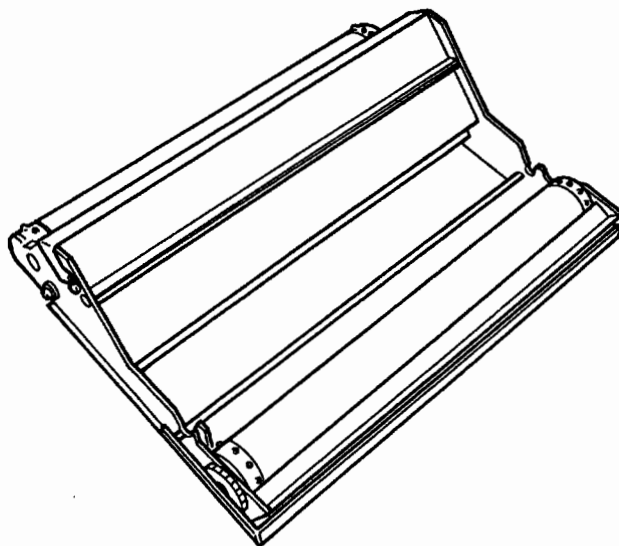

Figure 6.10
- (3) Turn the removed chart tray upside down so that the flat - bed side faces down words. (See Figure. 6.10)